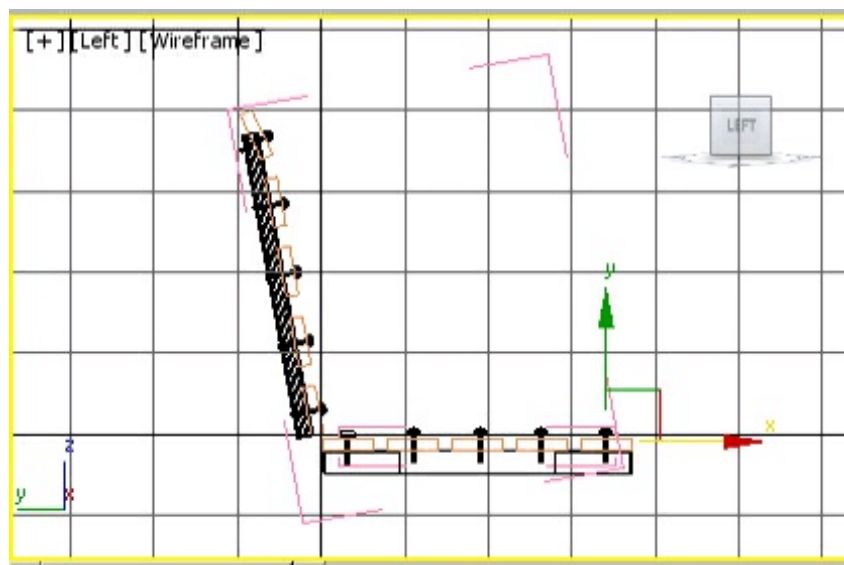

Figure 2-95 Alignment of right side seat rivets in the Left viewport
12. Choose the **Select and Move** tool and align all the rivets of *right side seat rivets* group with *horizontal seat support*, as shown in Figure 2-95.